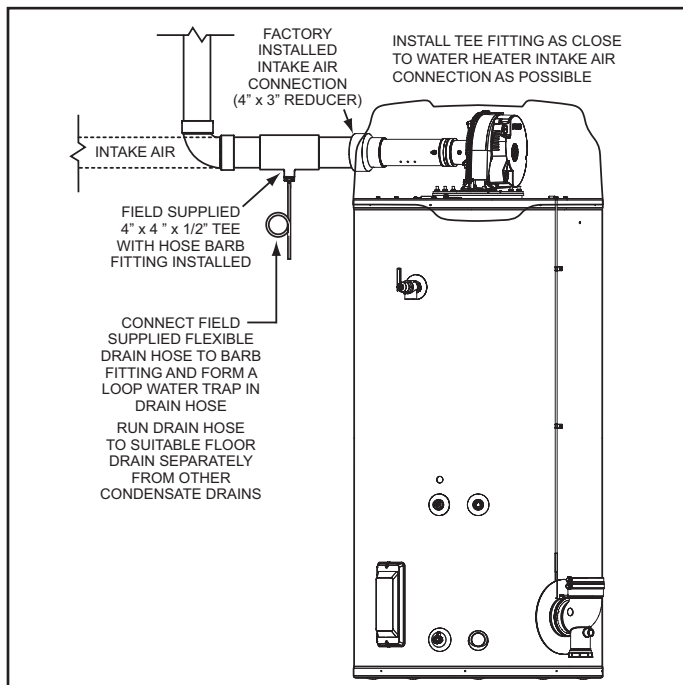

Figure 16. Intake Air Condensate Tee Installation
8. A field supplied condensate Tee fitting and drain hose must be installed in the intake air piping near the water heater in colder climates with heavy snow accumulations and in areas that regularly experience high humidity. The drain hose must be routed to an adequate floor drain separate from any other condensate drains. See *Figure 16* (page 24).
Installations with any of these conditions are required to provide a moisture drain with a trap that flows to a waste drain. See *Figure 16* (page 24) and *Figure 39* through *Figure 45* (page 36). A horizontal section of the air inlet pipe, near the heater should include a 4" by 4" by 1/2" tee and a hose barb fitting to drain the water. The tee should be as close to the heater as is practical. The drain tubing in any installation should have a loop trap and flow to an appropriate waste drain. The air intake drain line must be entirely separate from the exhaust vent outlet condensate line.